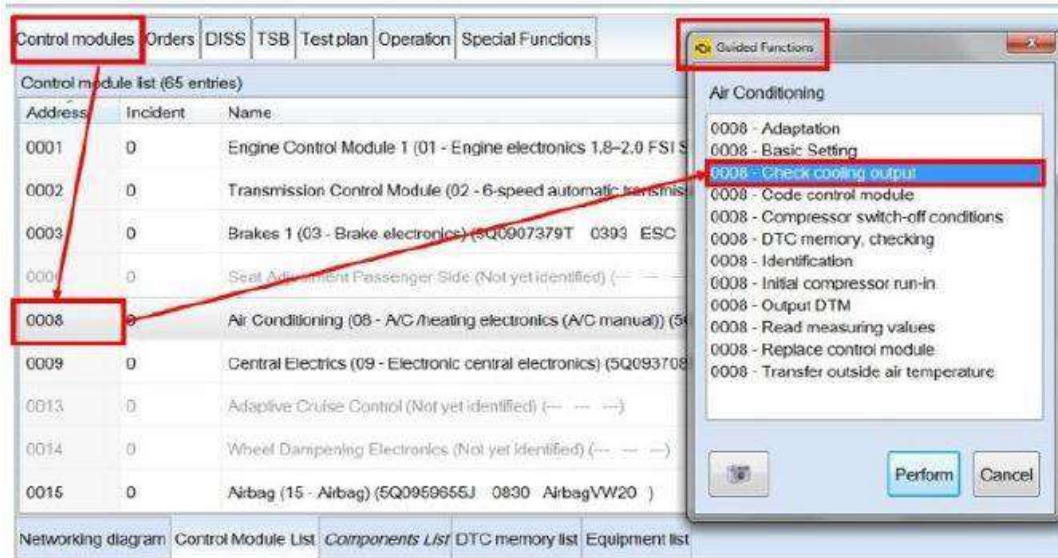

Figure 1: A/C Performance test CC, Tiguan, Golf, Golf SportWagen, Jetta SportWagen, Jetta, New Beetle, NBC, Tiguan LWB, Atlas, Atlas CrossSport, Arteon.
- Select Check cooling performance from the Guided functions menu and select perform (Figure 1).